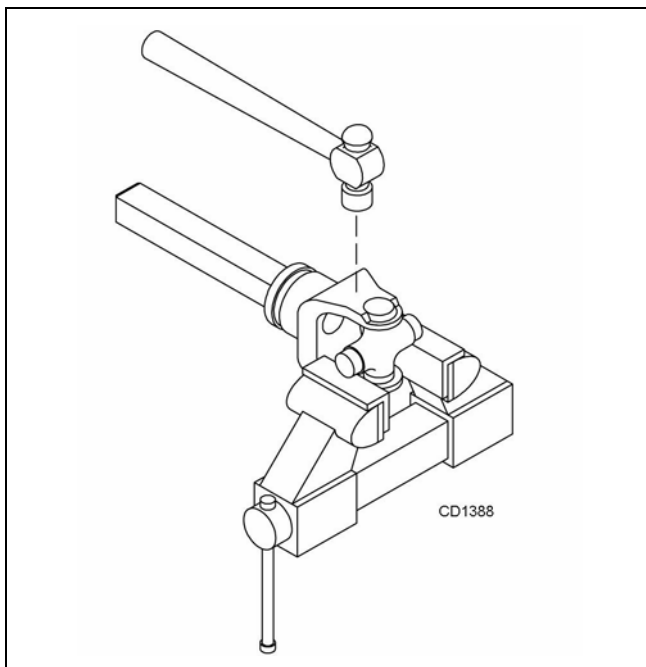

Figure 28. Remove Cups
4. Place universal cross in vise as shown in Figure 28 and tap on yoke to remove cup. Repeat Step 3 for final removal. Drive remaining cup out with a drift and hammer.